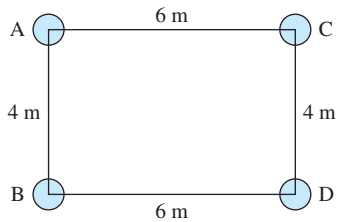

FIGURE P9.46 Single-phase transmission line configuration.
- 9.46 (H) A single-phase, 60-Hz power will be transmitted through the transmission line given in Figure P9.46. Each subconductor's radius is 10 cm. There are two configurations, the first one is setting subconductors A and B as a bundle, and C and D as another bundle; the second is setting subconductors A and C as a bundle, and B and D as another bundle. Which should be selected to achieve smaller inductance?